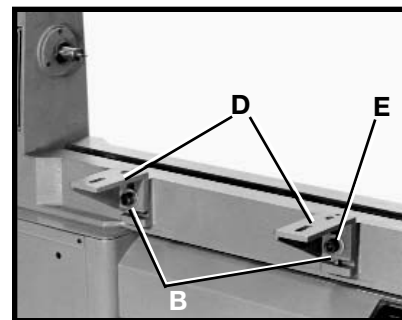

Fig. 8
2. Attach the two mounting brackets (D) Fig. 8 to the front of the lathe bed, and fasten with two M16 x 35mm hex socket head screws (E) and two flat washers (E). **NOTE:** Rest the bottom of mounting brackets (D) on top of hex head screws (B).